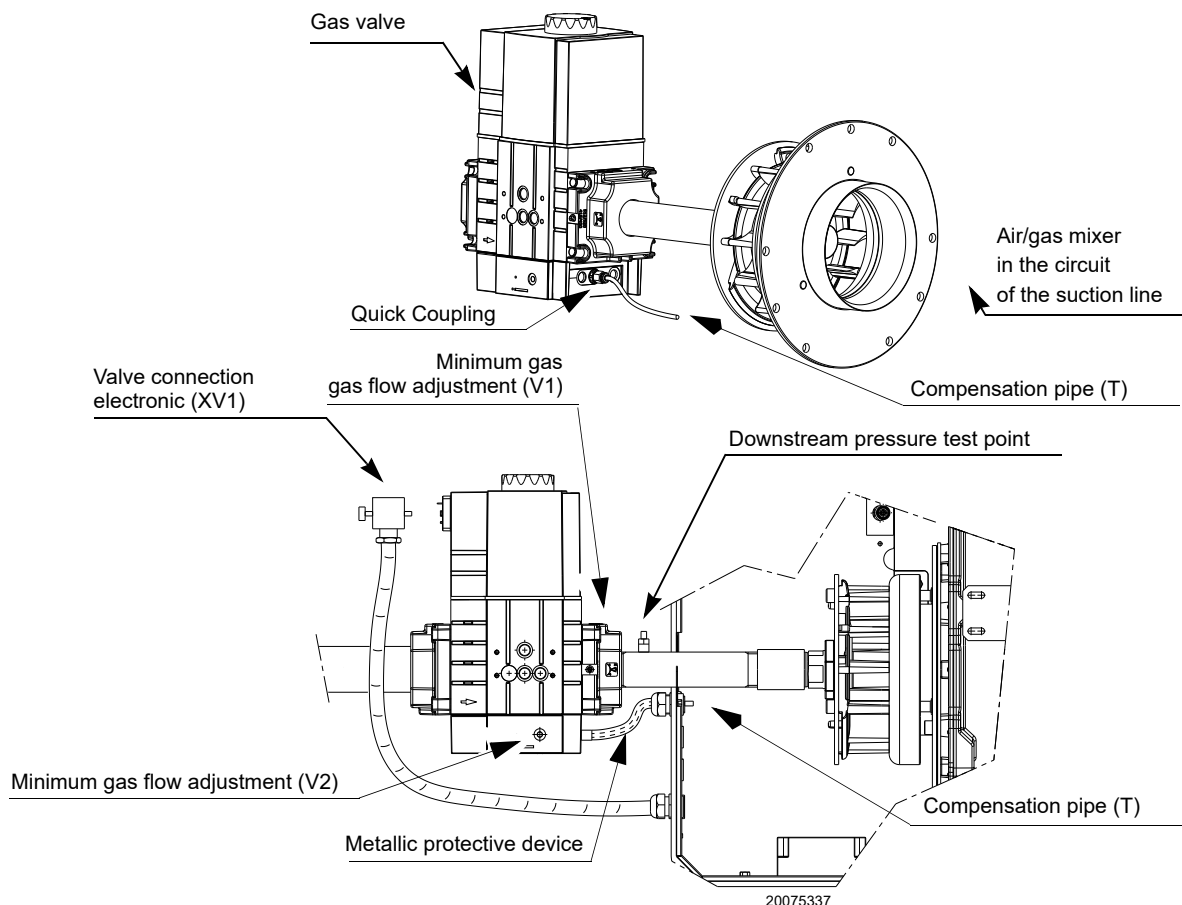

Fig. 17
- bleed the air from the gas pipes using the screw on the socket (Fig. 17 on page 23);